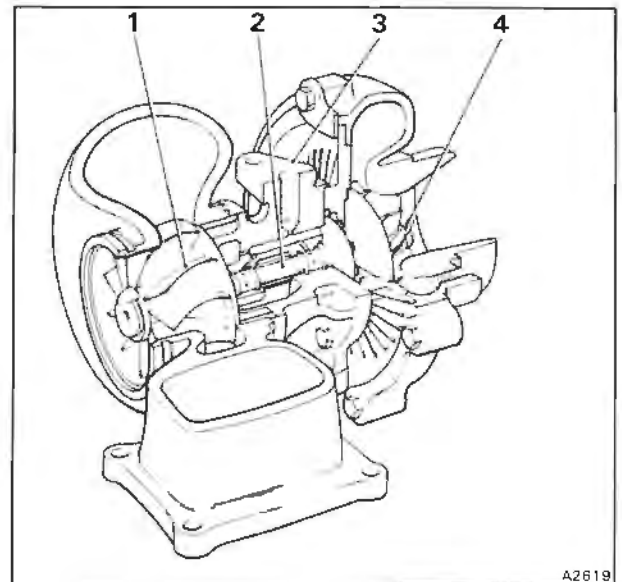

Fig. D3-3 The turbocharger assembly
**Turbocharger** (see fig. D3-3)